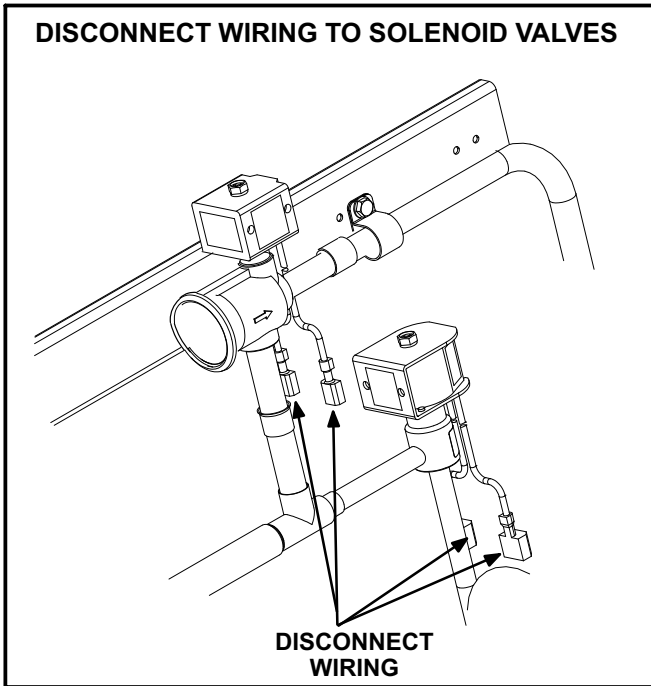

FIGURE 3
- 4- Mark and disconnect wiring to L42 full load and L41 part load solenoids shown in figure 3.